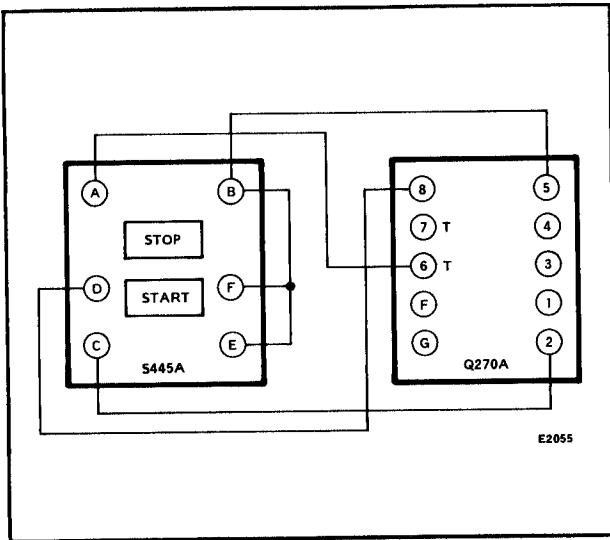

FIG. 2—TYPICAL WIRING HOOKUP FOR THE S445A START-STOP STATION.
2. Wire the installation as shown in Fig. 2.